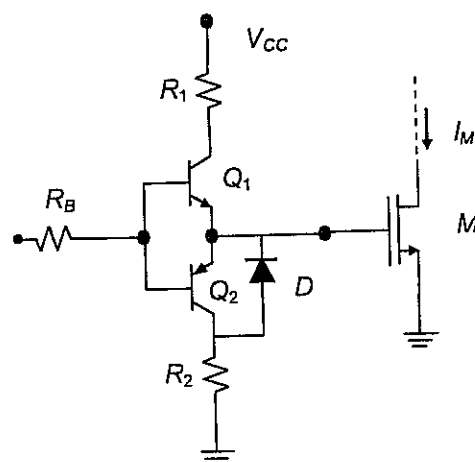

Fig. 3: MOSFET drive circuit
- The transistor is to be driven using the drive circuit of Fig. 3. What kind of drive circuit is this and what is its main advantage? Describe the operation of this circuit and calculate the values of R_1 , R_2 , and R_B knowing that the supply voltage V_{CC} is 12V and that the pulse generator behind R_B has 12V 100 Ω Thevenin equivalent. Note that the maximum collector current of the 2N2222A (Q_1) is 600 mA and that its minimum current gain is $h_{FE} = 75$, and that the maximum collector current of the 2N3906 (Q_2) is 200 mA and that its minimum current gain is $h_{FE} = 30$.